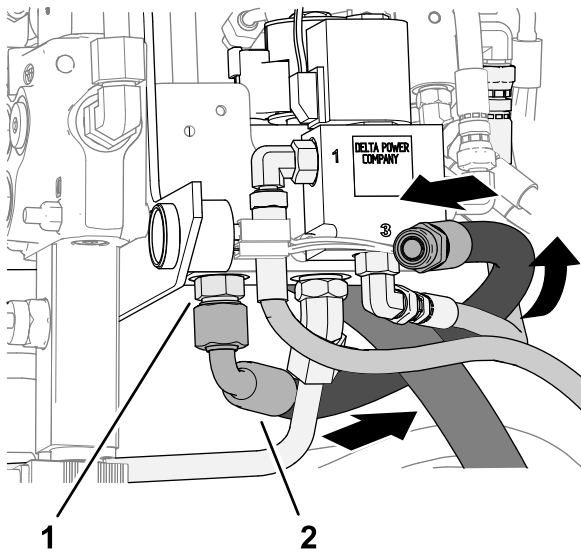

Figure 25
- Assemble the 90° fitting of the 41.9 cm (16-1/2 inches) hose to the straight fitting in port-P of the low-flow valve (Figure 25).